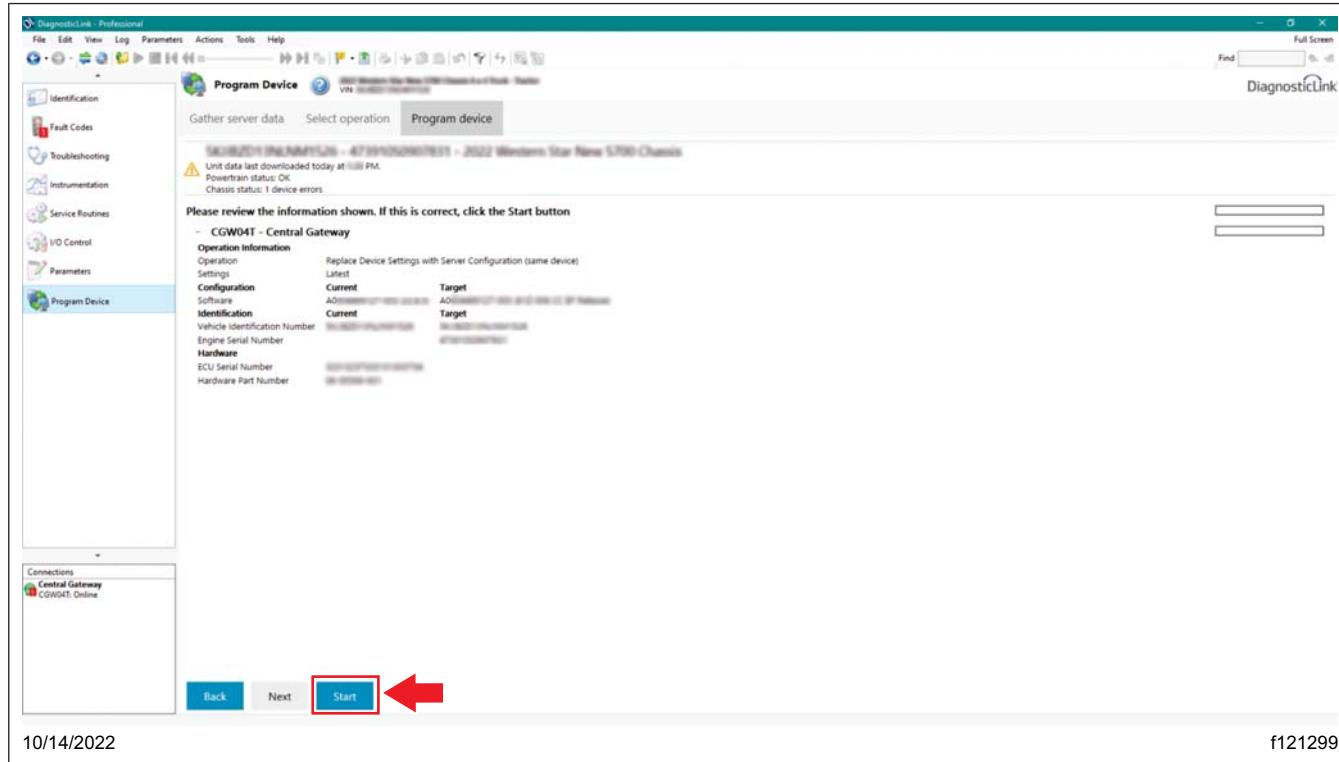

Fig. 16, Starting to Flash CGW04T
21.4 Select 'Start' to start flashing the CGW04T. See **Fig. 16.**